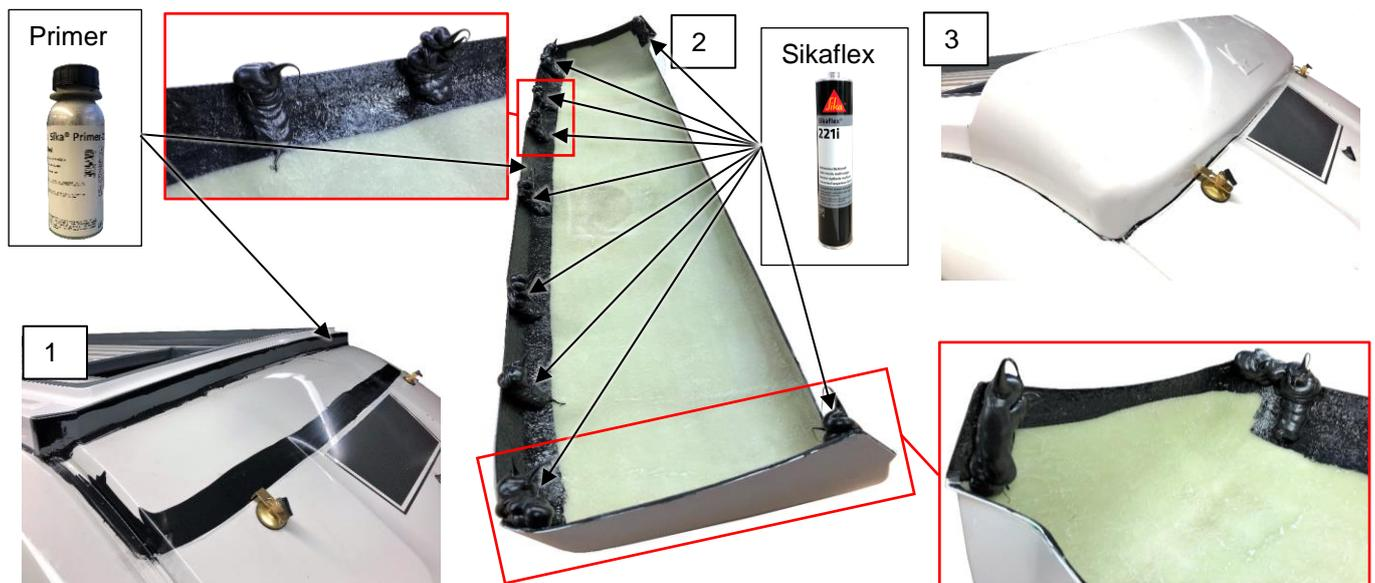

Abb. 4-1: Installation of the front spoiler
- Prepare the front spoiler, the GFRP frame and the vehicle in the gluing area (see Abb. 4-1, 1, 2):
- Apply generous Sikaflex 221i (a total of 2 cartridges) blobs to the adhesive area of the front spoiler (2)
- Position the spoiler on the vehicle and press it firmly (3). This must not be forcibly stretched to avoid cracks.